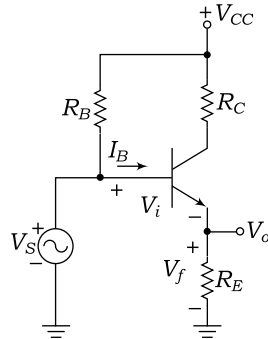

Fig. 4.52
16. Figure 4.52 shows a BJT amplifier circuit. What type of feedback topology is used in this circuit? Calculate the gain, input and output impedance with feedback $R_B = 100$ k-ohms, $R_E = 1.2$ k-ohms, $R_C = 4.7$ k-ohms, $h_{fe} = 100$ and $h_{ie} = 1000$.